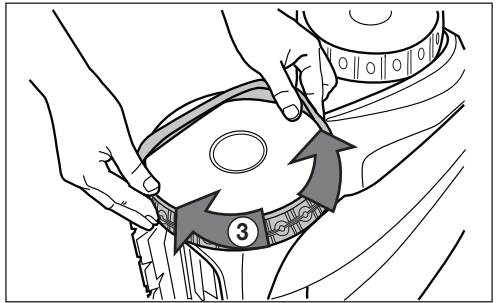

Figure 33. Work the Tyre On Around the Wheel
5. Work the tyre onto the wheel and verify the rib of the tyre is positioned properly within the groove of the wheel. See *Figure 33*.